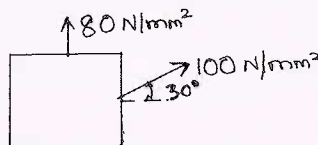

Fig.Q3(c)
- c. At a point in a strained material, the state of stresses is as shown in Fig.Q3(c), Determine the principal stresses, maximum shear stress and sketch the orientation of the principal planes.